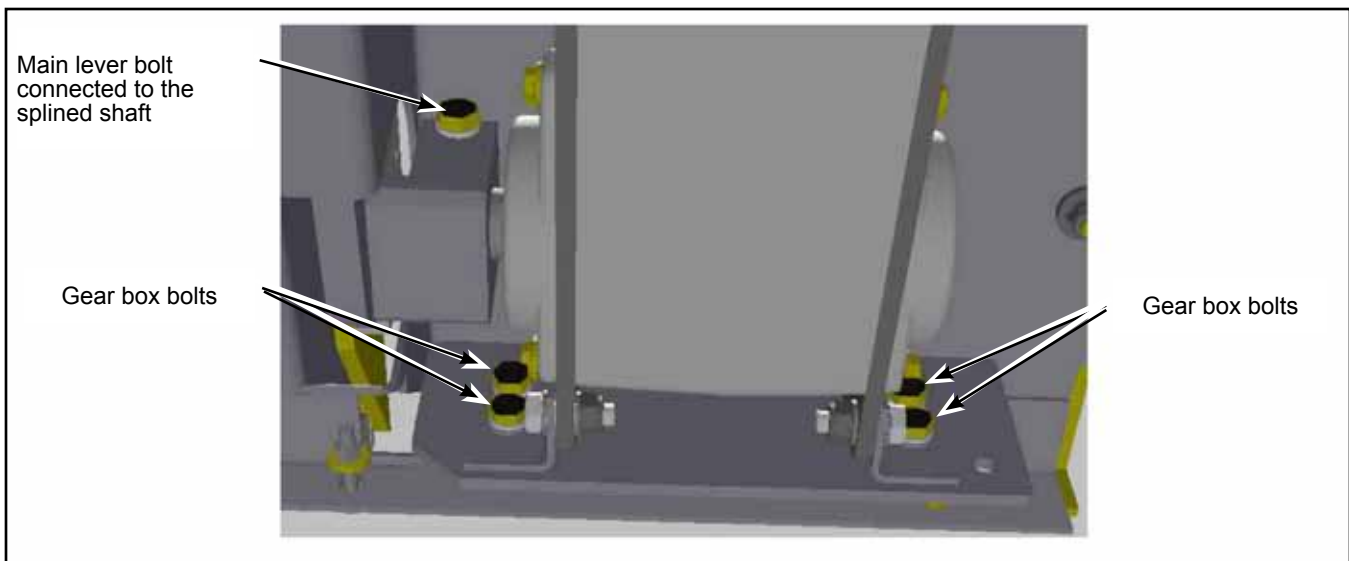

Figure 6 - Gear Box Attachments
- 2.8. Loosen and remove the main lever from the ramp splined shaft. See Figure 6. Retain the main lever and hardware